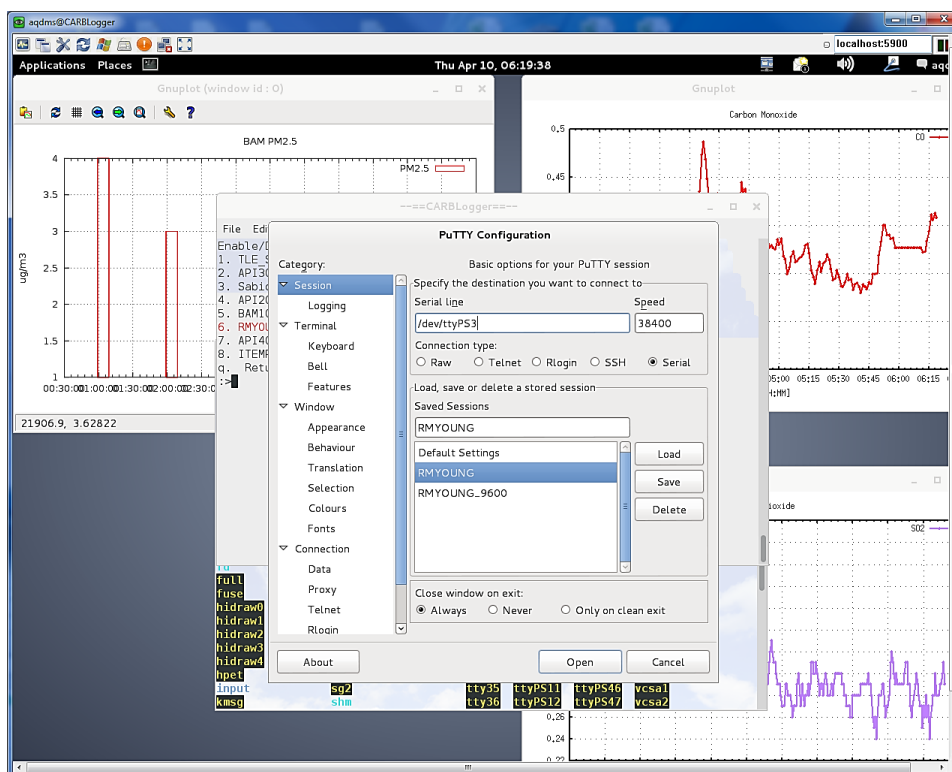

Figure C2: Setting up the Putty SSH Client
- Tick the **Serial** radio button and enter in the serial port and baud rate of the device you wish to communicate with, then press on the [Open] key. Refer to Figure C2 below.